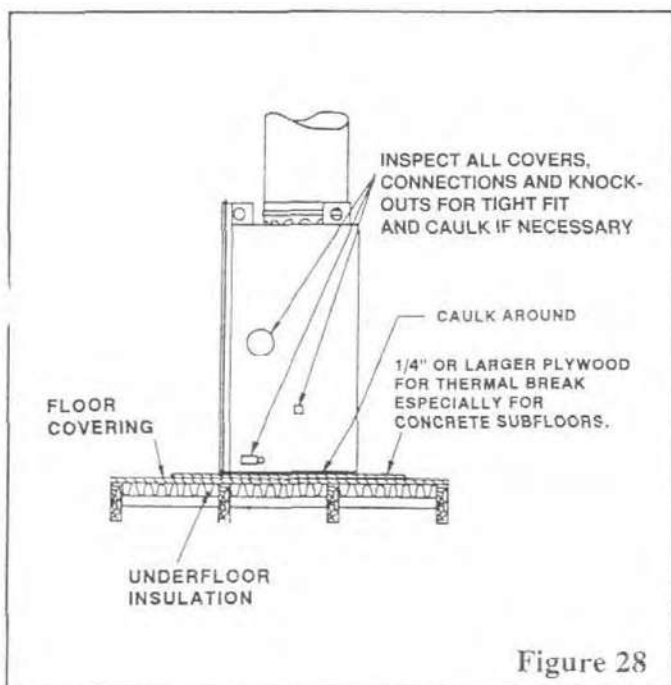

Figure 28
- 1) Set the fireplace on a 1/4" or larger plywood as shown in Figure 28; or
- 2) Using a silicone caulking material, rated to temperatures exceeding 350 degrees, caulk the bottom seams of the fireplace between the base pan and the outer casing as shown in Figure 28.